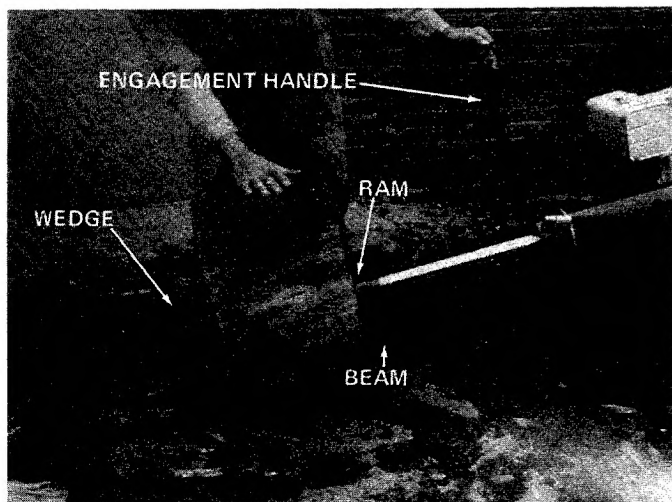

FIGURE 11
2. Place log on beam and hold in place with right hand. See figure 11.